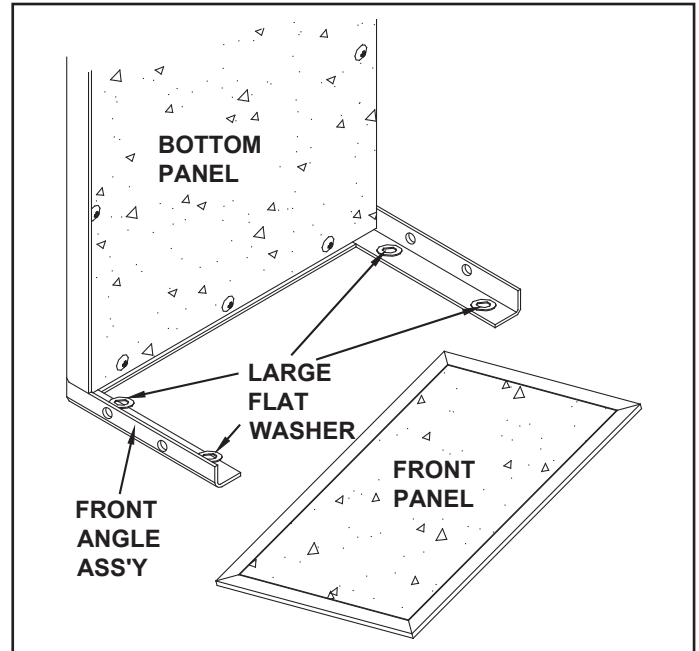

FIGURE 5
- Stand the cart on its front end with the front angle assembly on the floor. See figure 5.
- Temporarily place four large flat washers (used on wheel axle) on the inside of front angle assembly. See figure 5.